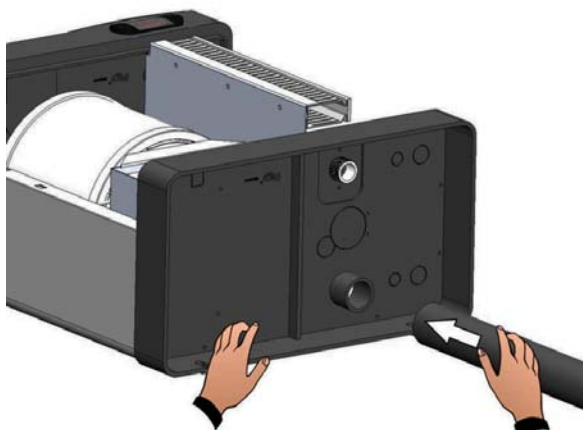

Fig. 9
6. Connect the water discharge tube to the 40 mm diameter sleeve, fixing it with the provided strap (fig. 9 and 10).